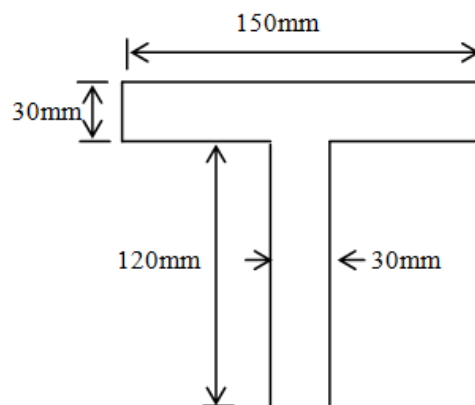

Figure A2(a) / Rajah A2(a)
- CLO1 ii. Figure A2(a) shows a T-section beam. Calculate the centroid of the section at y-axis and x-axis.